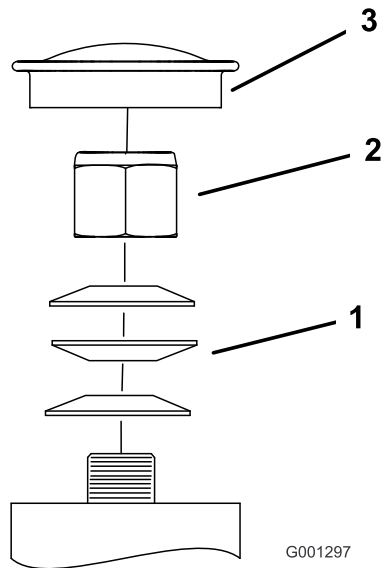

Figure 65
- Remove the dust cap from caster and tighten lock nut (Figure 65).
- Tighten the locknut until the spring washers are flat and then back off a 1/4 turn to properly set the pre-load on the bearings (Figure 65).
Important: Make sure the spring washers are installed correctly as shown in Figure 65.
- Install the dust cap (Figure 65).